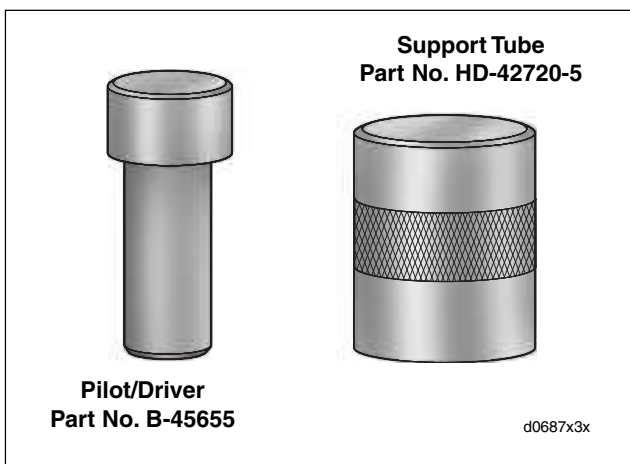

Figure 3-122. Crankshaft/Sprocket Shaft Bearing Pilot/Driver and Support Tube
1. See Figure 3-122. Obtain CRANKSHAFT/SPROCKET SHAFT BEARING REMOVER/INSTALLER PILOT/DRIVER (B-45655) and CRANKSHAFT/SPROCKET SHAFT BEARING REMOVER/INSTALLER SUPPORT TUBE (HD-42720-5).
5. See Figure 3-122. Obtain CRANKSHAFT/SPROCKET SHAFT BEARING REMOVER/INSTALLER SUPPORT TUBE (HD-42720-5) and CRANKSHAFT/SPROCKET SHAFT BEARING REMOVER/INSTALLER PILOT/DRIVER (B-45655).
1. See Figure 3-122. Obtain CRANKSHAFT/SPROCKET SHAFT BEARING REMOVER/INSTALLER SUPPORT TUBE (HD-42720-5) and CRANKSHAFT/SPROCKET SHAFT BEARING REMOVER/INSTALLER PILOT/DRIVER (B-45655).